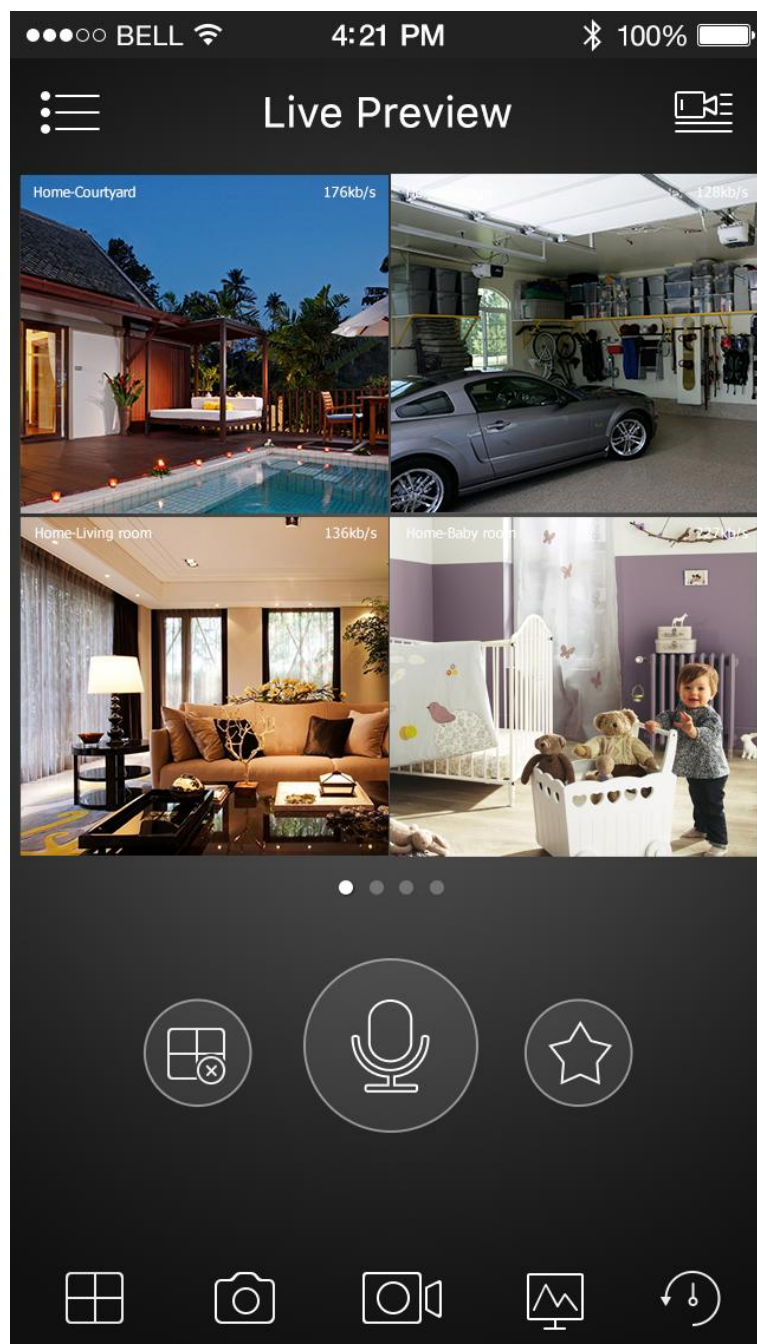

Figure 6-4
- a) After scan, you can view the product SN. Click the Start live preview button, now you can see live view on the cell phone. See Figure 6-4.